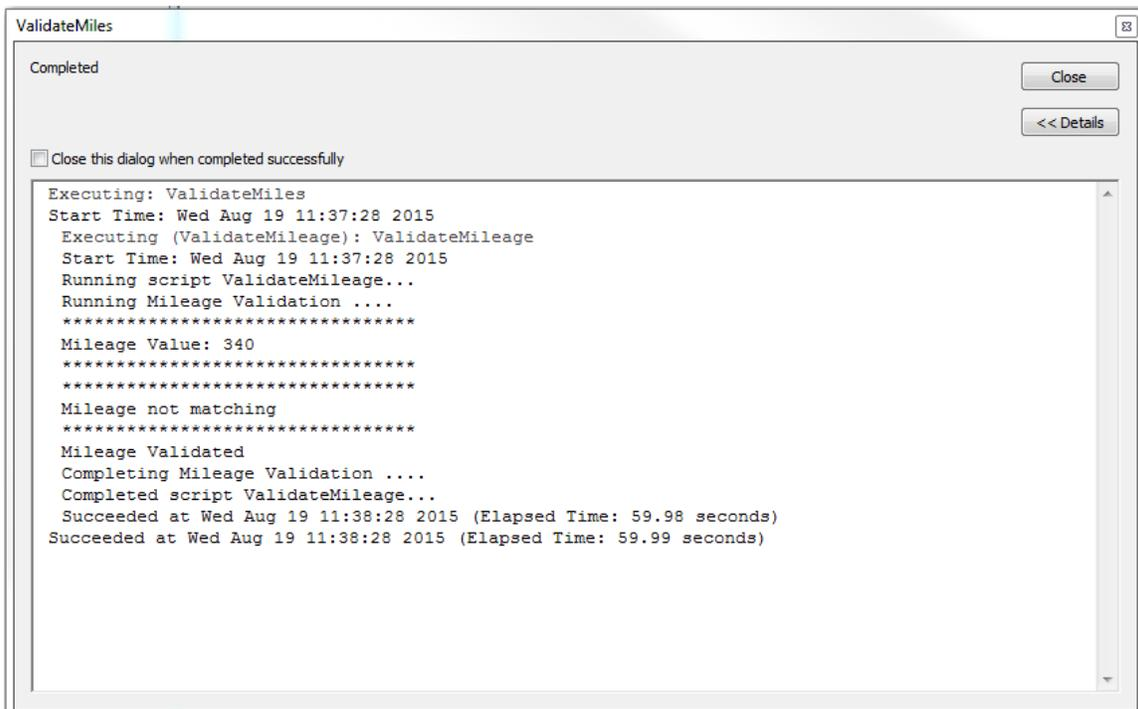

Figure 99: The Validate Mileage Completed Dialog Box
4. If the shapefile passes validation, a dialog box indicating the validation process has completed appears, as depicted in Figure 99 below.